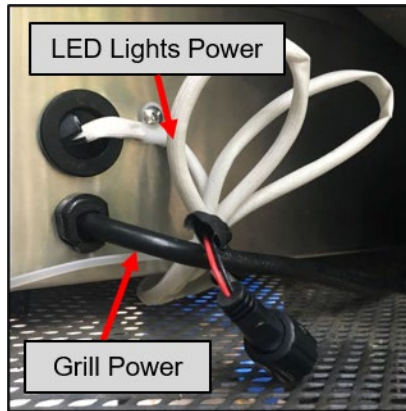

Figure 19 Electrical Cables
4. Carefully snip the zip ties around the white electric cable at the right rear corner of the grill (Figure 19)